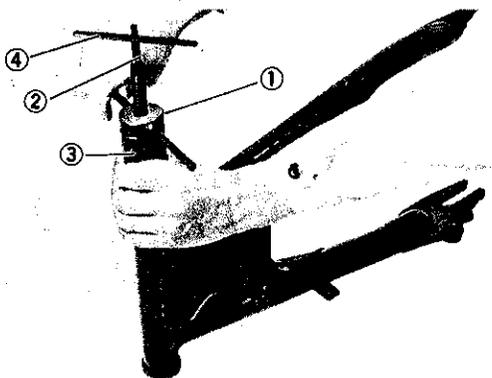

Fig. 10-146.
- Turn the center screw ② of the tool clockwise to adjust the claw portion to the length of the bearing.
- Hold the end ③ of the tool on the swinging arm to set the handle ④ to the chuck.
- While turning the handle counterclockwise, open the claw portion. Then fix the center screw ② by a wrench to prevent it from turning idly (see Fig. 10-146).